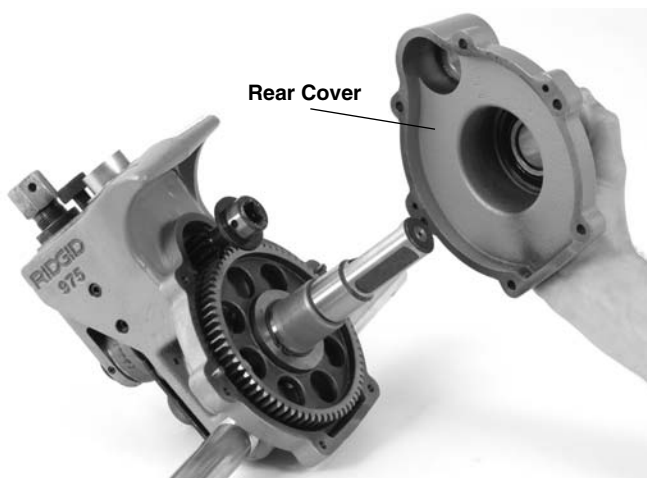

Figure 18 – Removing Rear Cover
2. Remove the rear cover (See Figure 18).